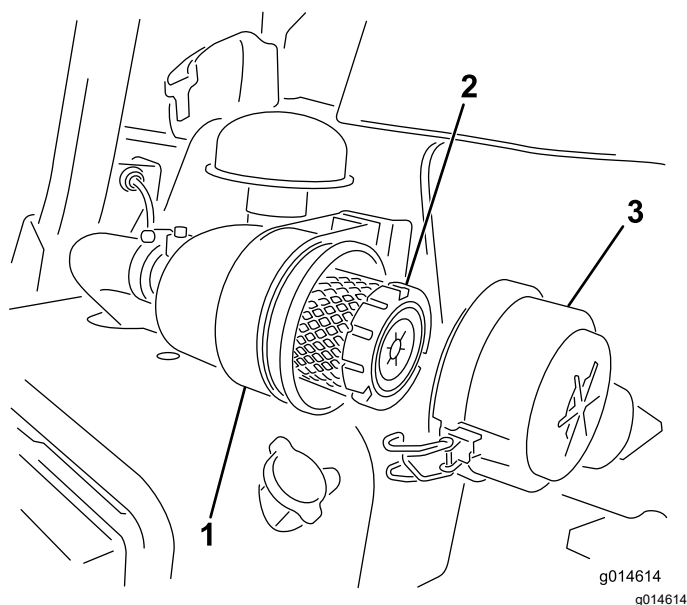

Figure 34
1. Release the latches securing the air-cleaner cover to the air-cleaner body (Figure 34).
7. Secure the latches (Figure 34).